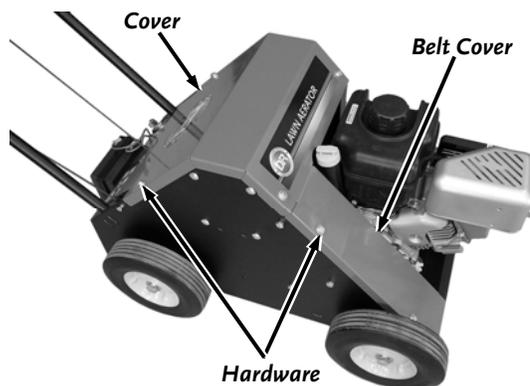

Figure 19
1. Remove the four Bolts and Flat Washers that secure the Cover using a 7/16" Wrench (**Figure 19**) and remove the Cover.